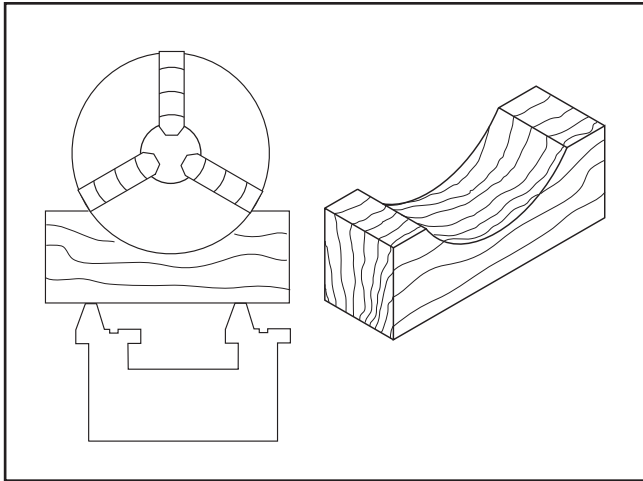

Figure 16. Simple chuck cradle made of scrap lumber.
2. Lay a chuck cradle or a layer of plywood over the bedways to protect the precision ground surfaces from damage and to prevent fingers from being pinched (see **Figure 16**).